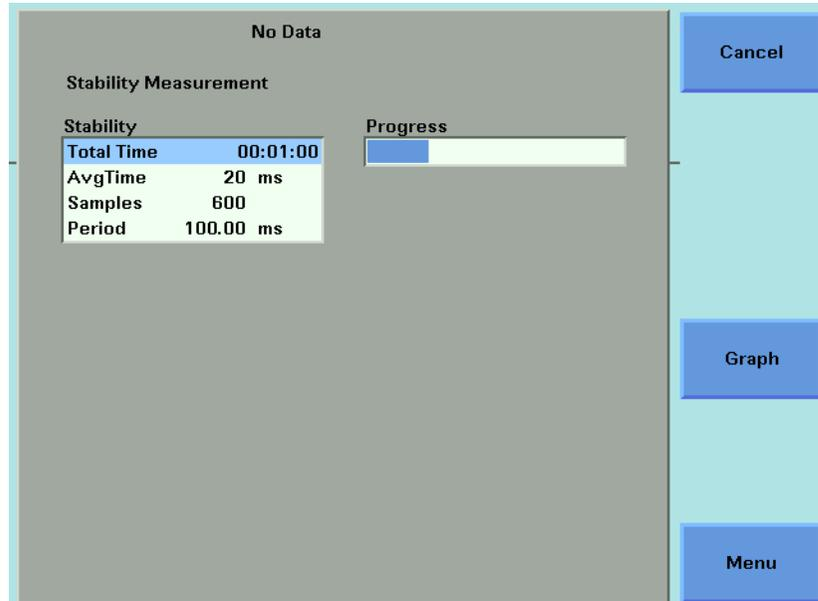

Figure 159 The Stability Measurement Screen - Measurement Running
**17**You can run the stability application by pressing [Measure]. The Stability Measurement screen, as shown in Figure 159, appears. A progress bar shows the proportion of the stability application that has been completed.
**19**When the stability application completes, you hear a beep, an hourglass appears momentarily. If you are viewing the Stability Measurement Screen, the available softkeys change as shown in Figure 159.